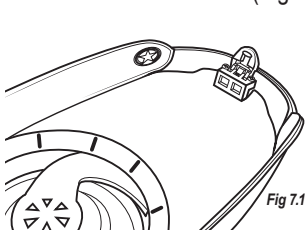

Fig 7.1
2. The rear of the Floor should be placed under the backside of the Button Lock assembly (Fig 7.1).